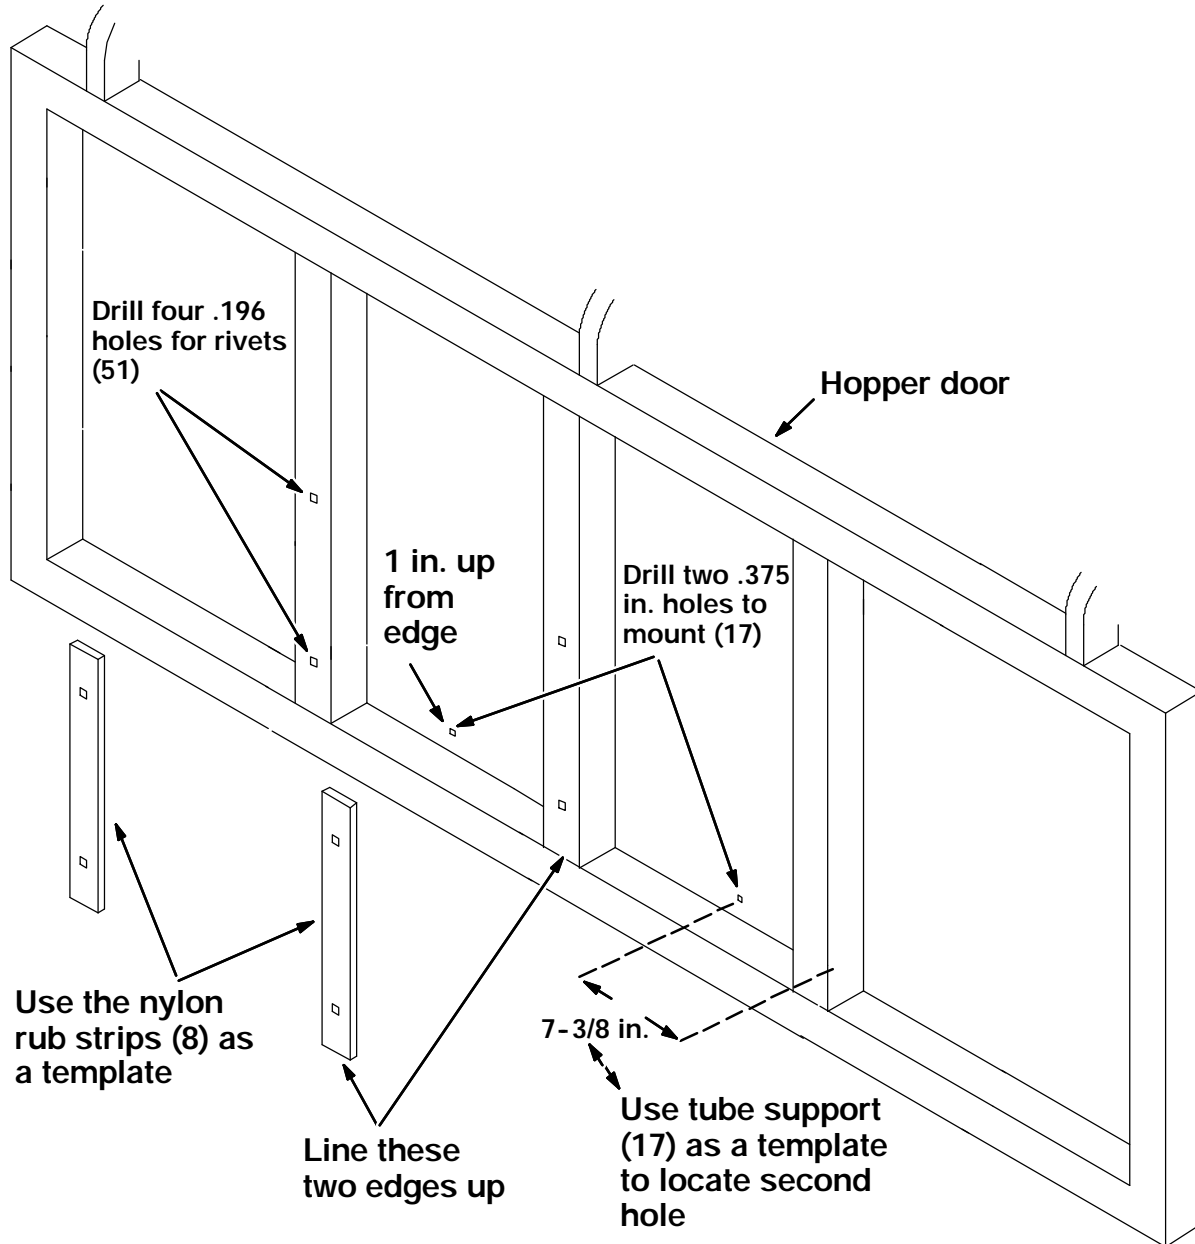

FIG. 3 - Mount Hole Locations In Hopper Door
(Refer to Figures 3, 4, and 5)
1. The hopper dump door must be in the open position. (Refer to Fig. 3 and 4)
3. Drill one .375 (3/8) in. hole in the hopper dump door 1 in. up from the bottom tube and 7-3/8 in. over from the edge of the second rib from the right. (Refer to Fig. 3)
4. Using the rear tube support (17) as a template, line up the hole just drilled with the the hole in the right side of the tube support (17) and mark the second hole on the left side of the dump door. This hole is also located 1 in. up from the top of the bottom tube. (Refer to Fig. 3 and 4)
7. Attach the two nylon strips (8) using the four rivets (51) provided in this kit. (Refer to Fig. 3 and 4)